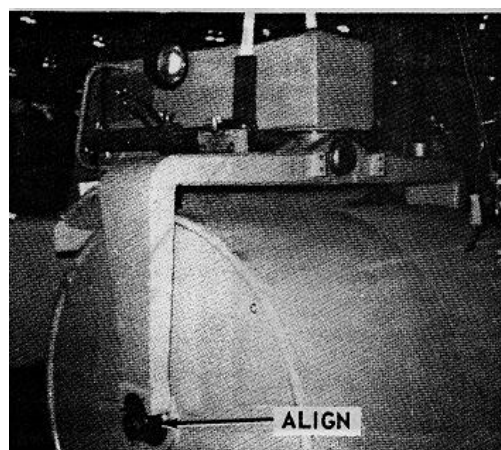

FIGURE 9-111.
b. Lift the gooseneck up until the steering yoke clears the axle shaft spacers. Then carefully roll the guide rolls until yoke is directly over the axle shaft (see figure 9-111).